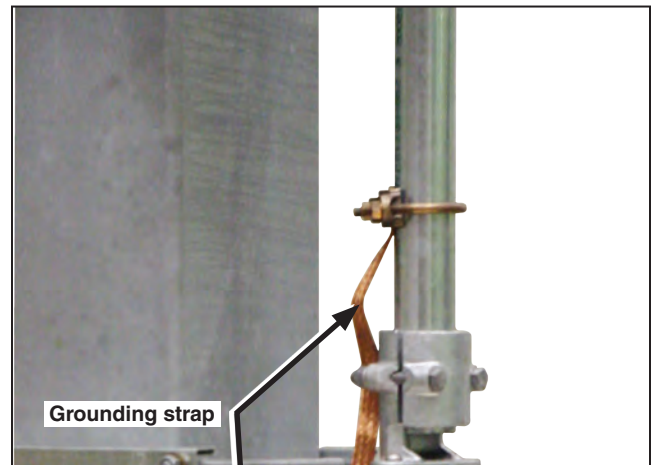

Figure 38. Attach the grounding strap.
STEP 9. Fasten the free end of the grounding strap to the vertical shaft a few inches above the flexible coupling attached to the switch operator using the grounding connector provided. Then, fasten the other end of the grounding strap to a suitable earth ground. See Figure 38.